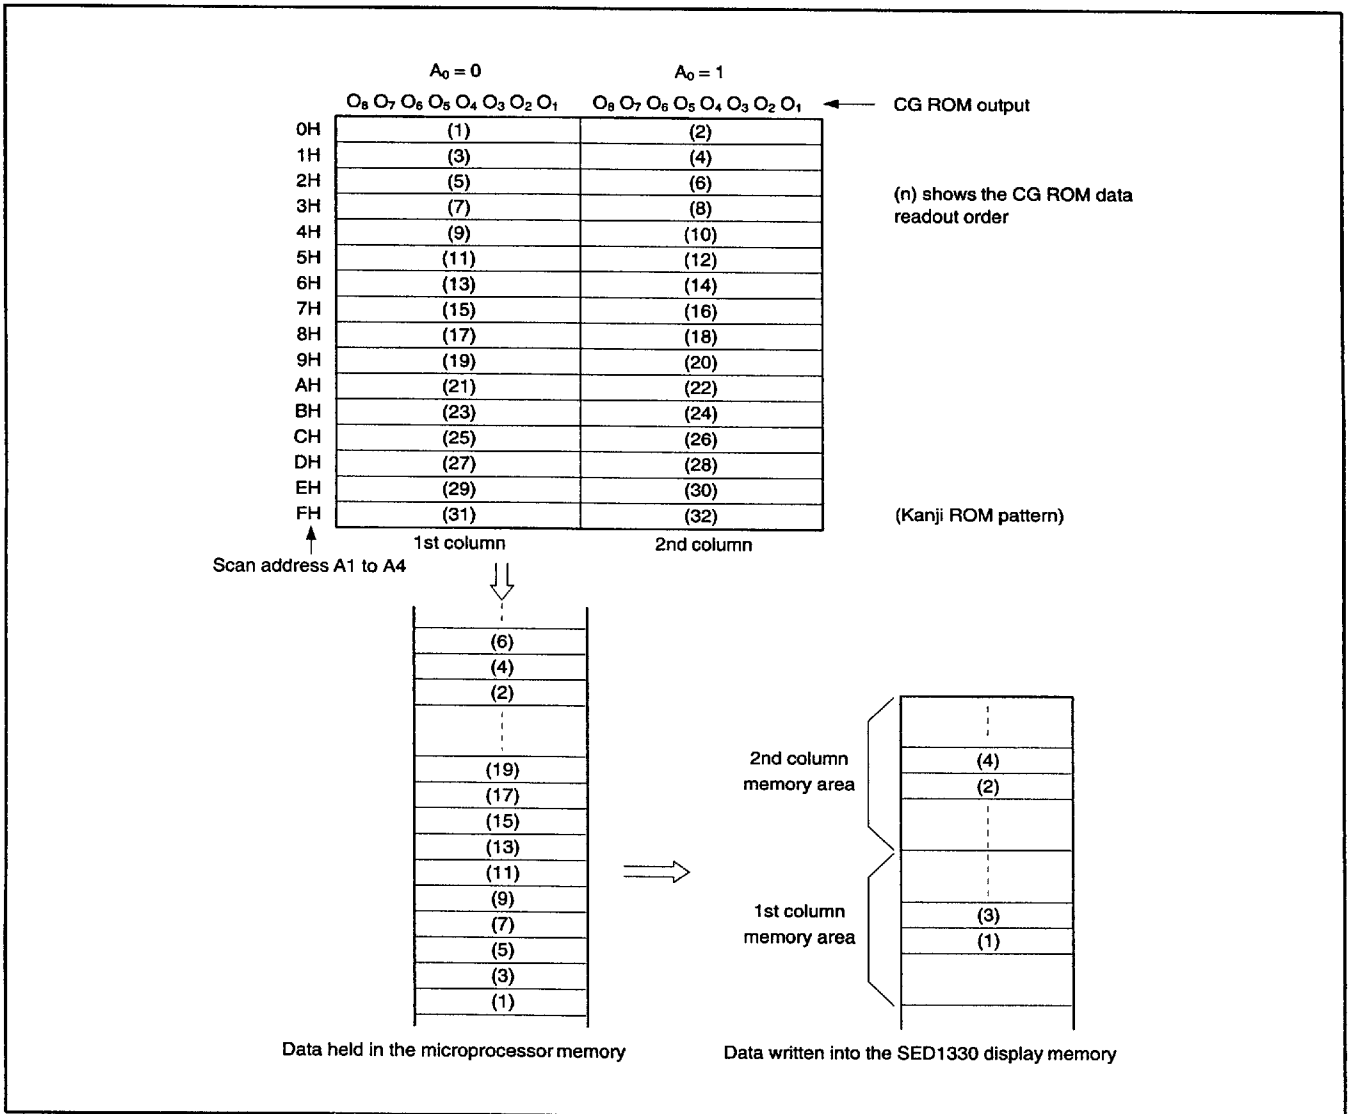

Figure 91. Graphics address indexing
2. The microprocessor sets the display address and writes to the VRAM. The flowchart is shown in Figure 91.